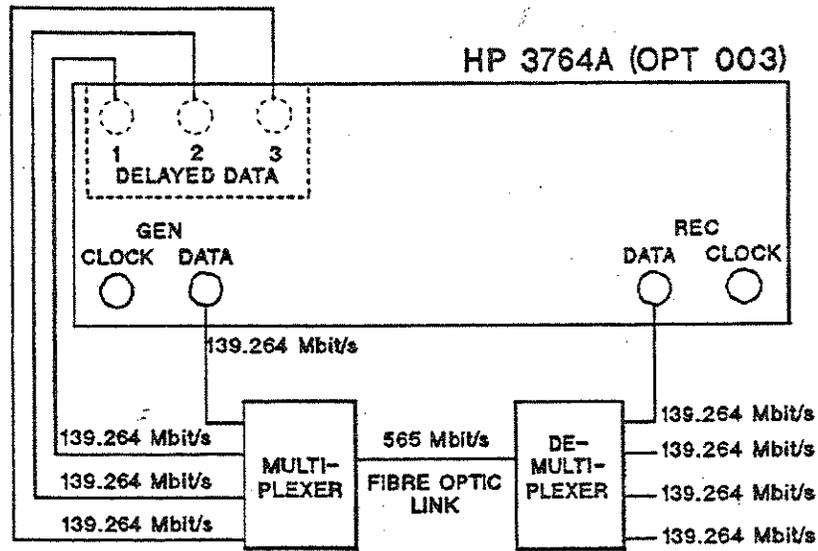

Figure 2-4. 565 Mbit/s Fibre Optic Measurement
3. Connect up the equipment as shown in Figure 2-4.